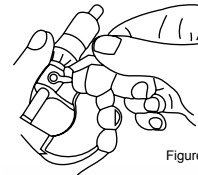

Figure 1
- When the alignment error is ± 0.01 mm or less (Figure 1 and 2)